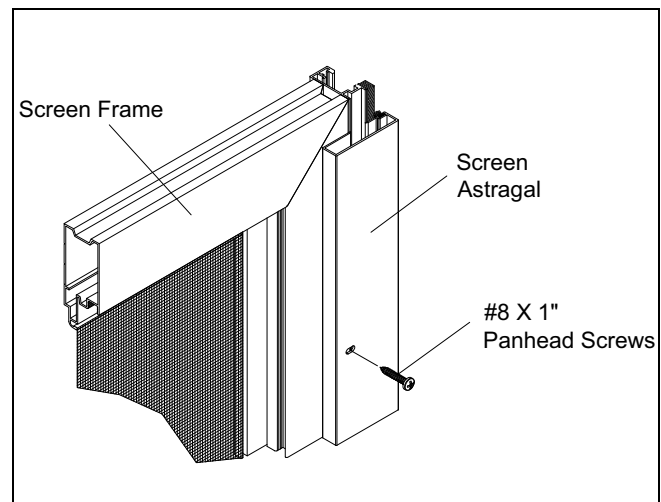

Figure 5
3. Fasten the astragal to the screen panel with the #6 x 3/4" pan head screws provided. DO NOT OVERTIGHTEN THE SCREWS, HAND TIGHTEN ONLY. See figure 5.